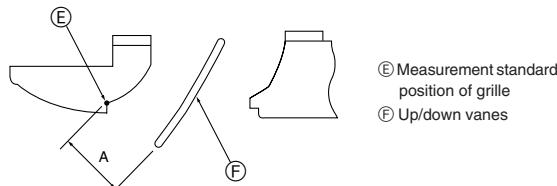

Fig. 8-10
- ③ To adjust the desired airflow direction, slowly move the up/down vanes within the specified range. (Fig. 8-10)